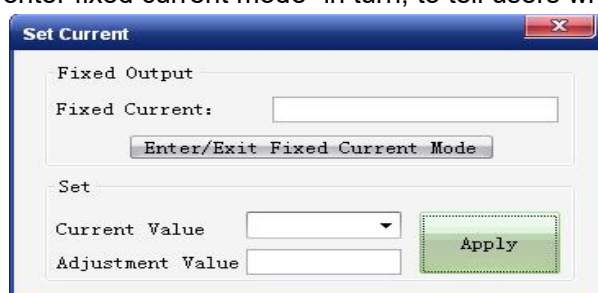

Figure 5-7 Calibrate current
**Calibrate 4mA and 20mA current :** In Figure 5-7, select the current value needed to calibrate, when the output current is stable, and input the practical value of current (the value of the ammeter) to the edit “adjustment value”, and then click the button “apply”. Note whether the output current is satisfied to the requirements, if not, follow the steps above to adjust again.
**Fixed current output:** In Figure 5-7, input the value of the current the smart transmitter will be fixed on, to “fixed current value”, and click the button “enter/exit fixed current mode” to enter or exit the mode of fixed current output. The text of the button can display “exit fixed current mode” and “enter fixed current mode” in turn, to tell users what to do.